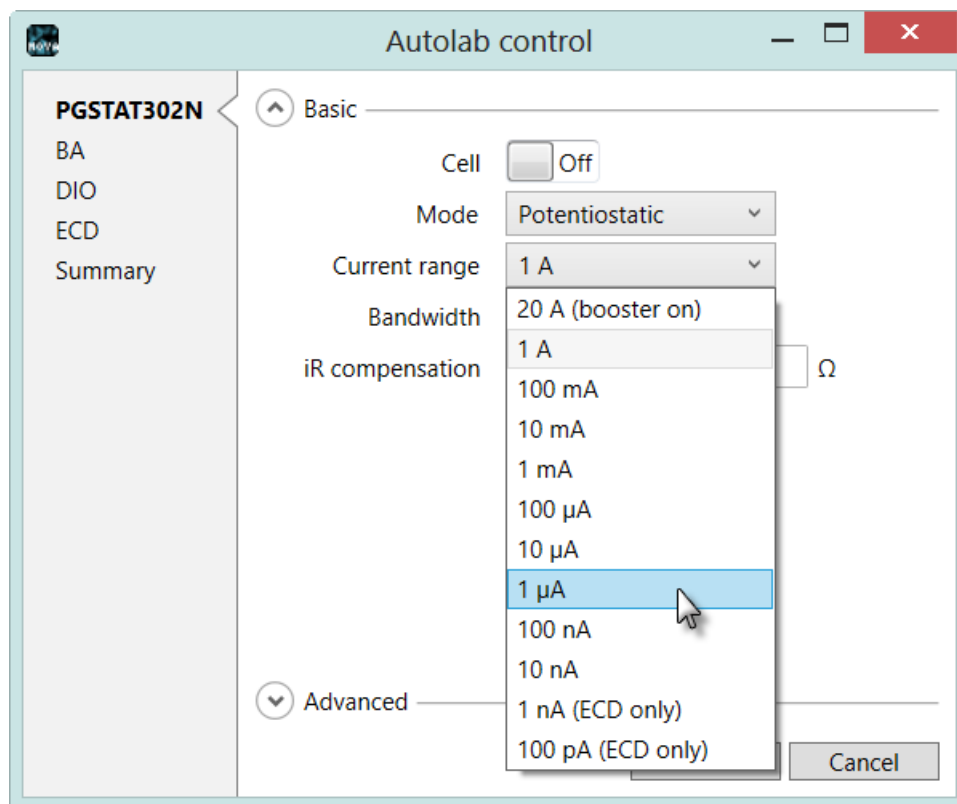

Figure 4 – The available current ranges depend on the hardware setup
- **Current range:** defines the current range for Autolab PGSTAT. The available current ranges depend on the hardware setup. The optional ECD module extends the current range down to 100 pA and the Booster extends the current range up to 20 A (see Figure 4).